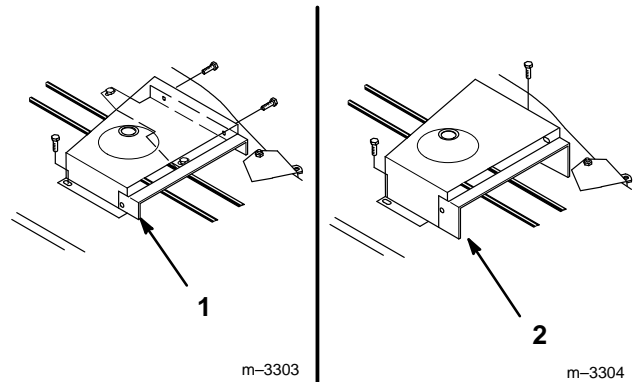

Figure 34
1. Remove the mower belt cover from the right side pulley (Fig. 34). Save mounting hardware.